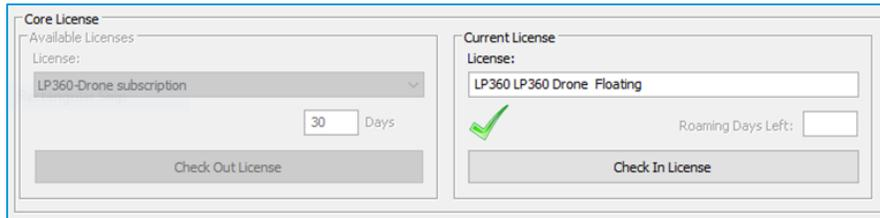

Figure 4 - License Manager
- 6. The *Current License* portion of the dialog should now show the license type with a green checkmark (Figure 4) indicating that the license has been activated.
5. The *Current License* portion of the dialog should now show the license type with a green checkmark (Figure 4) indicating that the license has been activated.